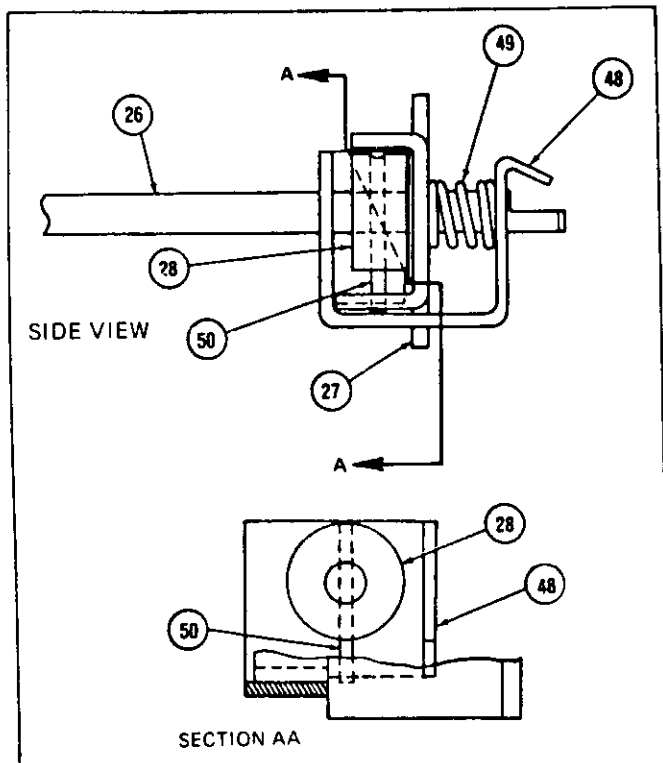

Fig 34 - SpaceMaker II Shaft Interlock Installation
A safety interlock is provided on the *SpaceMaker* compartment racking shaft mechanism. The shaft lock (Figure 34) consists of a lock bracket (48) and compression spring (49) mounted on the racking shaft at the front bearing support. The lock bracket prevents rotation of the racking shaft through interference with the stop pin when the compartment door is open. The purpose of this safety feature is to lock the line shutters closed when the compartment door is open.
arc of 180°. The new mechanism is not adaptable to the older *SpaceMaker* model which employed a reversible ratchet type racking handle which rotates through 320°. The new shaft lock mechanism can be simply installed on *SpaceMaker II* units without the need for machining any of the existing parts. If this safety feature is to be added on existing controllers, one lock bracket 25-204-209-001 and one compression spring 25-120-212-001 are required for each *SpaceMaker II* racking compartment. Proceed as follows to install the lock bracket and spring in the field. Refer to Figures 34 and 44.